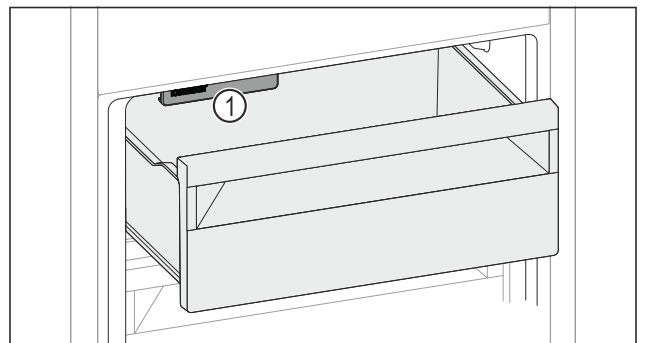

Fig. 148
- Watch out for the IceMaker *Fig. 148 (1)*.